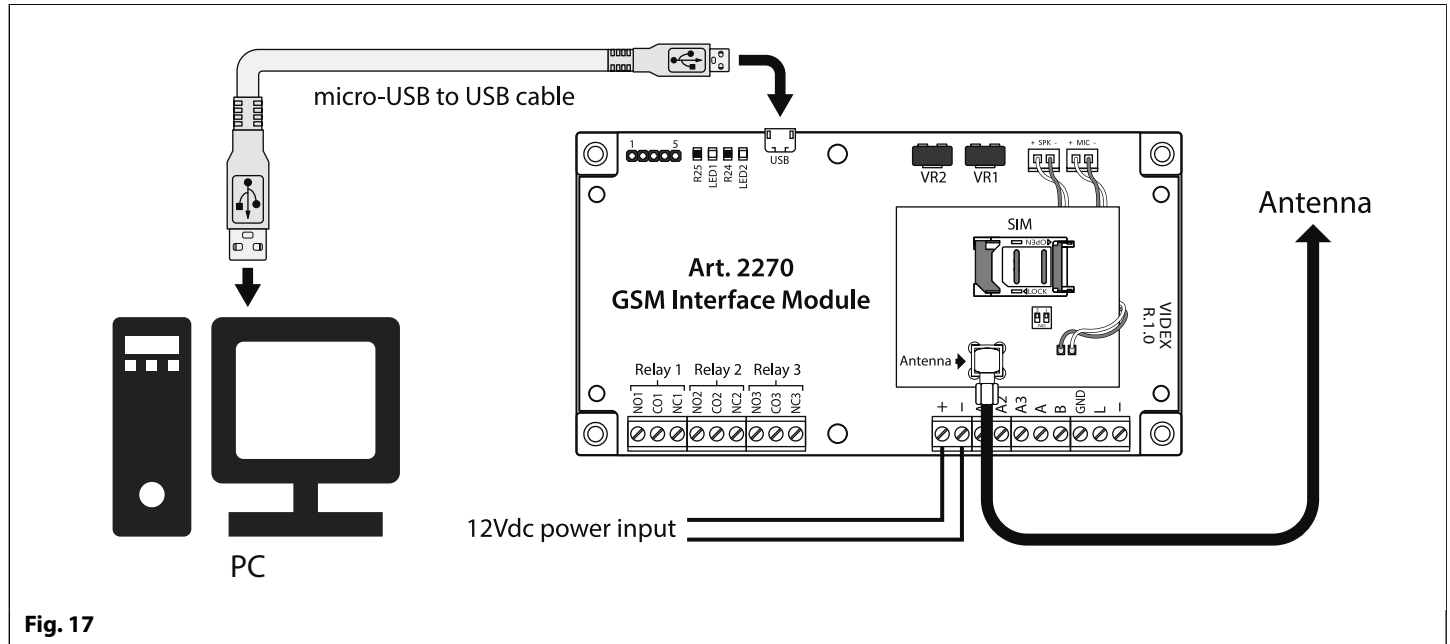

Fig. 17
The GSM module can be connected using a standard micro-USB to USB cable as shown in **Fig.17**. This method of connection is primarily used for programming and setup of the GSM module only.
*For end of line termination a 120 Ohm resistor must be fitted across the RS485 terminals A and B, as shown in **Fig.17**.